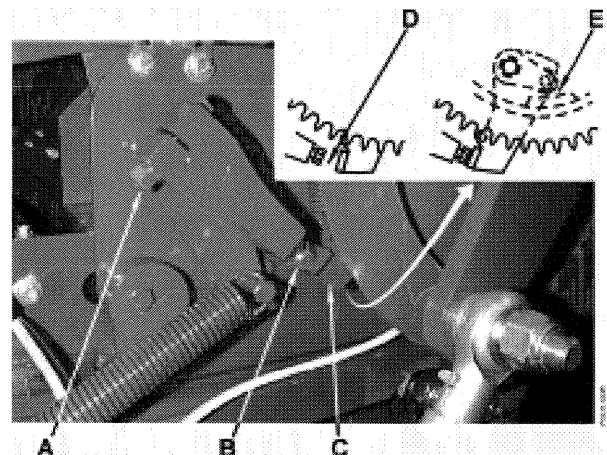

Fig. 18
B. Loosen clamp bolt "A," to position stop bolt "B," square to the face of clutch pawl "C," Fig. 18.
C. The clutch pawl should have approximately 1/2" clearance at "D," when depressed. The clutch pawl roller and the knotter clutch stop cleat should have 1/8" clearance at "E." Adjust with bolt "B" Fig. 18.